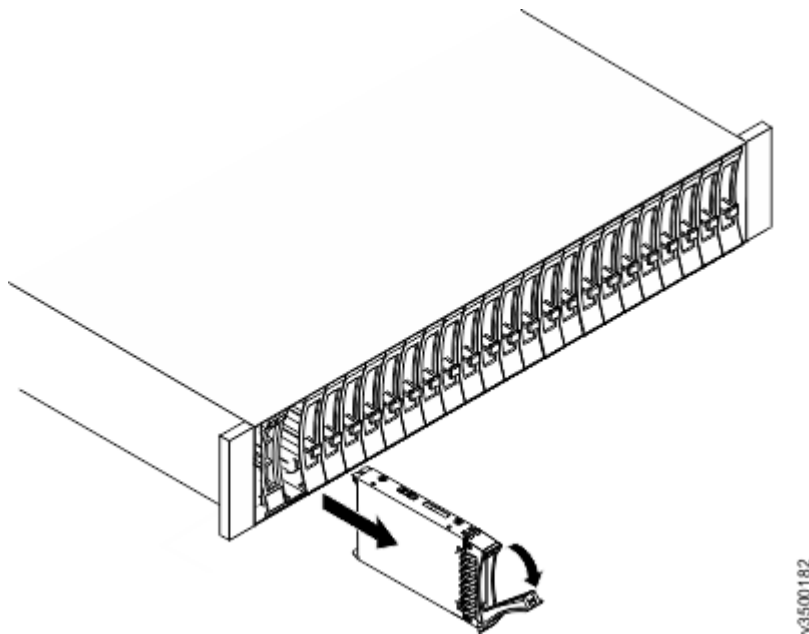
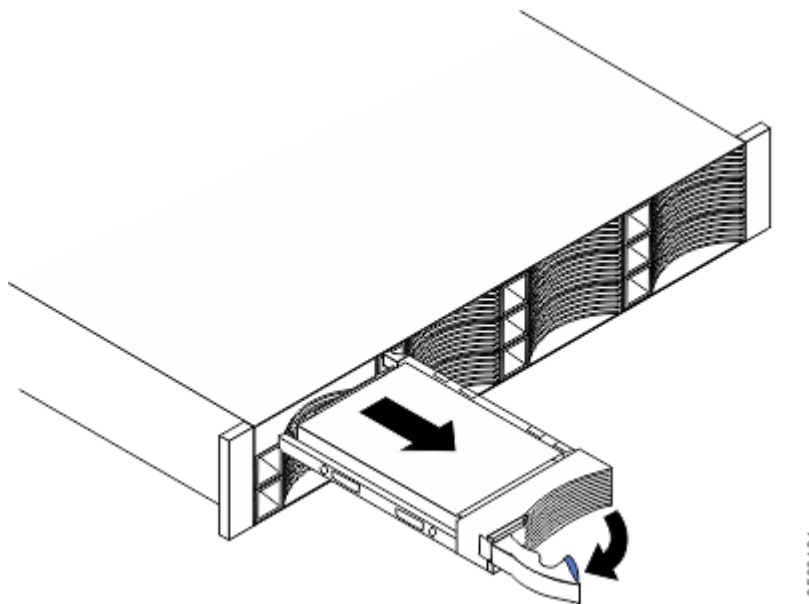

Figure 94. Removing a vertical style hard disk drive
Figure 95. Removing a horizontal style hard disk drive
6. Carefully remove each hard disk drive and label it with the drive slot from which it was removed (so that the drives can be inserted back into the same slots). Refer to Figure 94 on page 156 or Figure 95 on page 156.